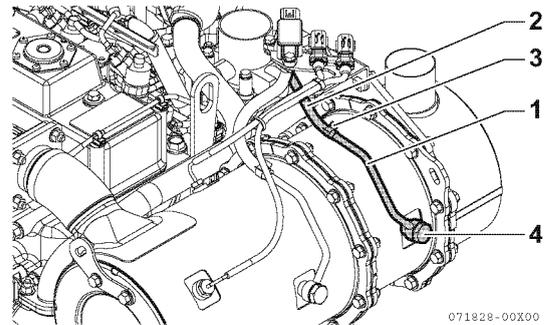

Figure 13-7
- Loosen the hose clip (3, **Figure 13-7**) for the hose (2, **Figure 13-7**) connected to the SF side exhaust pressure pipe (1, **Figure 13-7**), and remove from the pipe.
- SF cleaning is also possible while the exhaust pressure pipe is attached, therefore it is not necessary to remove the pipe joint bolts (4, **Figure 13-7**).